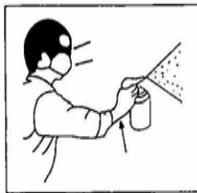

Fig 1
1. Toxic fumes produced when spraying certain materials can create intoxication and serious damage to health. Always wear protective eyewear, gloves and a respirator to prevent the toxic fumes hazard, solvent and paint coming into contact with your eyes or skin. (see fig 1)